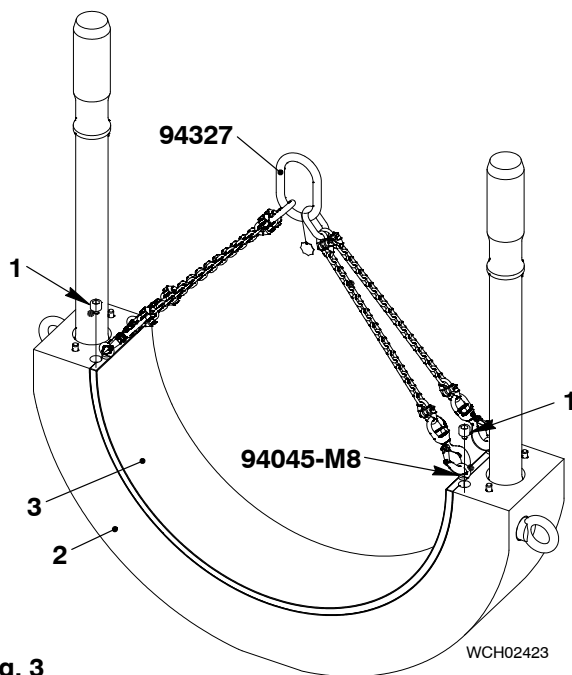

Fig. 3
- 1) Remove the two screws (1, Fig. 3).
- 5) Operate the engine room crane to lift bearing shell (3) from the bearing cover (2).